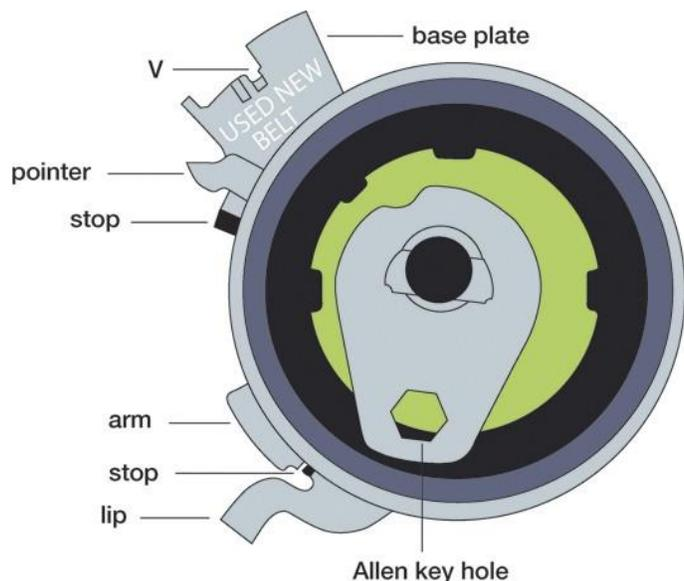

Fig. 1
6. Install new tensioner, hand tighten bolt. Tensioner lip **has to be** in oil pump housing slot. (Tensioner pointer has to sit behind water pump pulley). The allen key hole has **to be set** in +/- 7 O'clock position (Fig. 1).